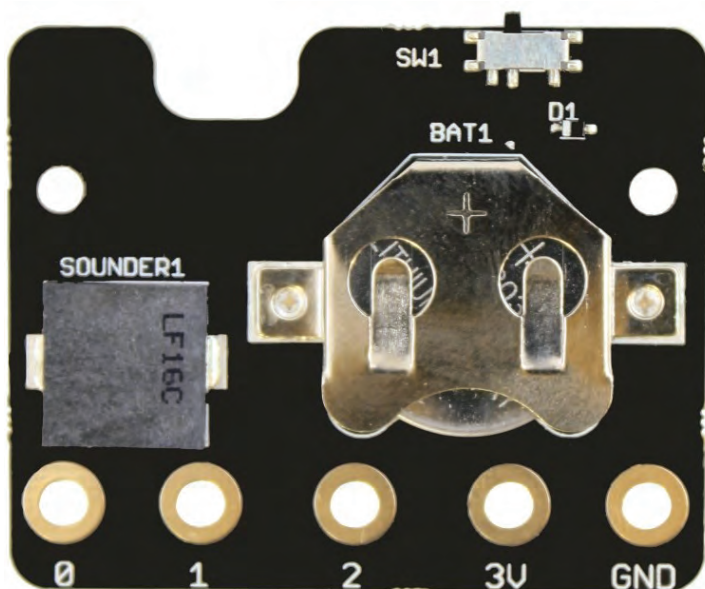

FIGURE 1.8: The MI:power board
- ❑ The MI:power board (Figure 1.8)—I don't consider this board as vital as the other two I've mentioned, but it's definitely useful nonetheless. First, it allows you to power your micro:bit using a coin cell battery rather than a bulky pair of AAAs. Second, it mounts to your board as a shield, similar to the Arduino shields, making everything a one-piece set. And finally, it has a piezoelectric buzzer built in, letting you experiment with the sound-making capabilities of the micro:bit without having to make any extra connections.